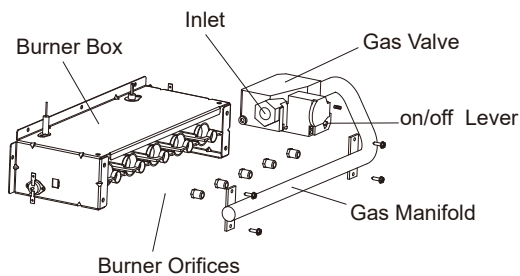

Fig. 8-1 Gas Manifold Exploded View
See Fig.8-1.
1. Remove and save two screws holding J-Box. (See Fig. 8-1.)